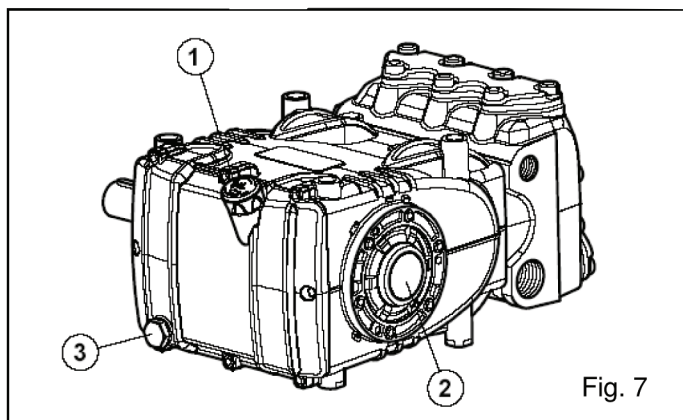

Fig. 7
7. Make sure the oil level is correct using the dipstick (1, Fig. 7) and the oil sight glass (2, Fig. 7).